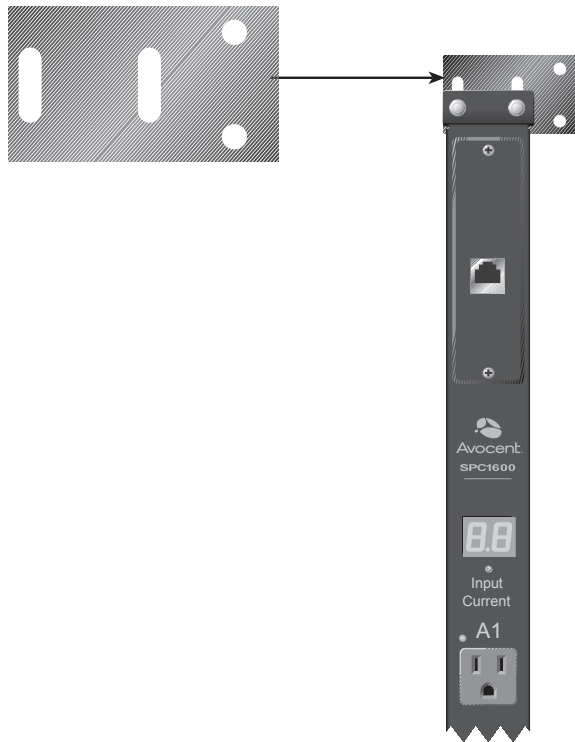

Figure 2.2: Rack Mounting Bracket
1. Attach one mounting bracket to the top flange of the SPC with one set of screws and washers through each of the slots in the bracket, as shown in Figure 2.2. Secure each screw with a nut. The slots allow about 1/2 inch of vertical adaptability.